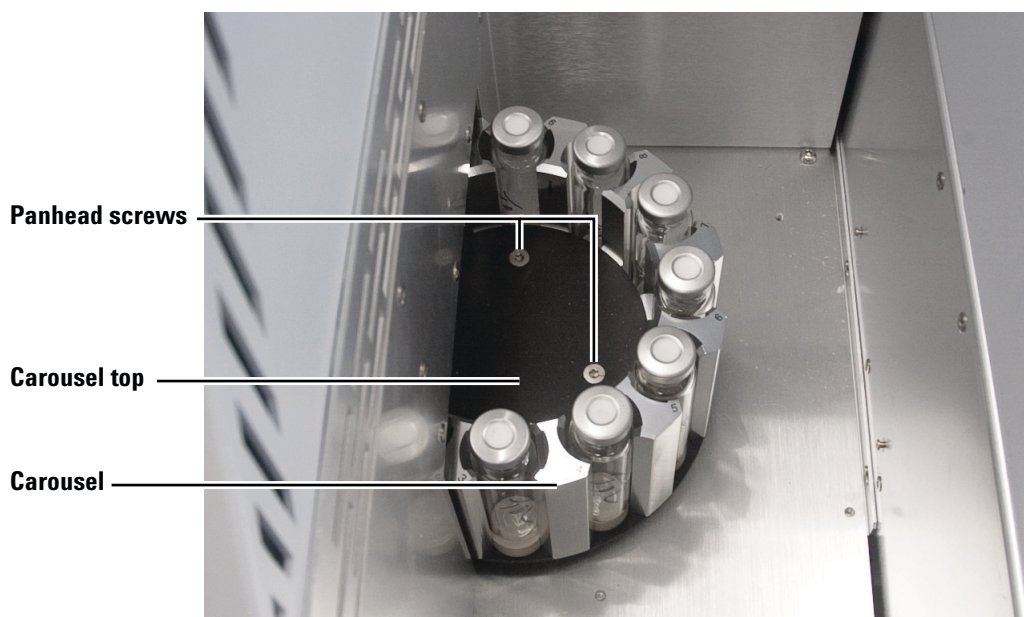

Figure 15 Oven area and carousel
- a Remove the three T-20 Torx screws on the carousel top, and remove the carousel top (Figure 15).
- b Remove the three T-20 Torx panhead screws and washers on the carousel base that secure the carousel to the carousel hub (Figure 15).